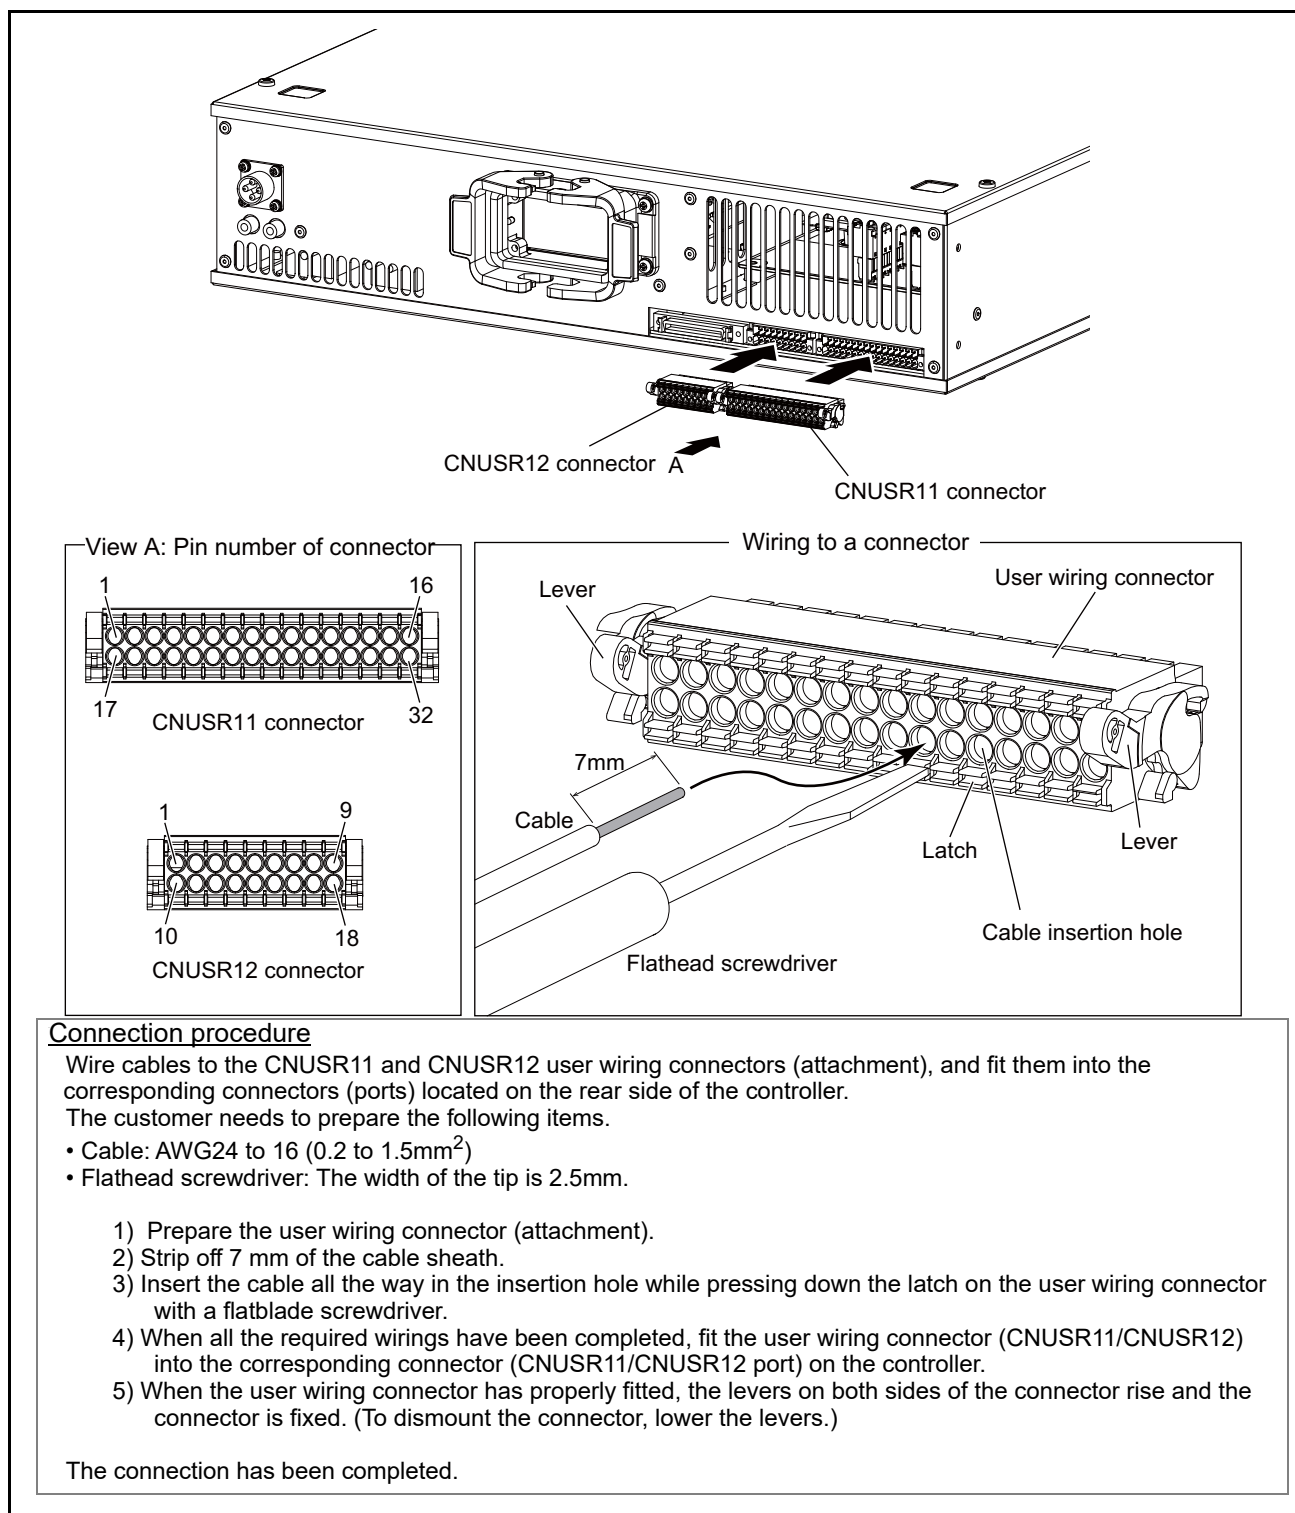

Fig.3-7: Wiring method to the user wiring connector
* Refer to Page 45 "Fig. 3-7: Wiring method to the user wiring connector" for more details about how to wire a connector.